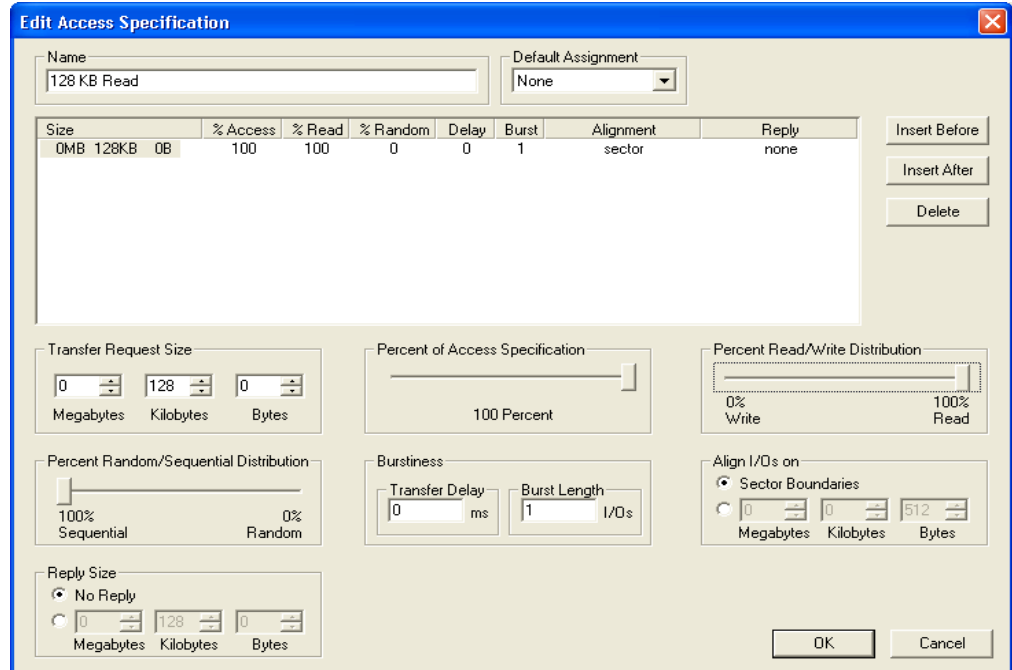

Figure 10 Iometer Access Specification Screen
4. Under the Access Specifications Tab, have the worker perform a 128 KB Sequential Read (see Figure 10).